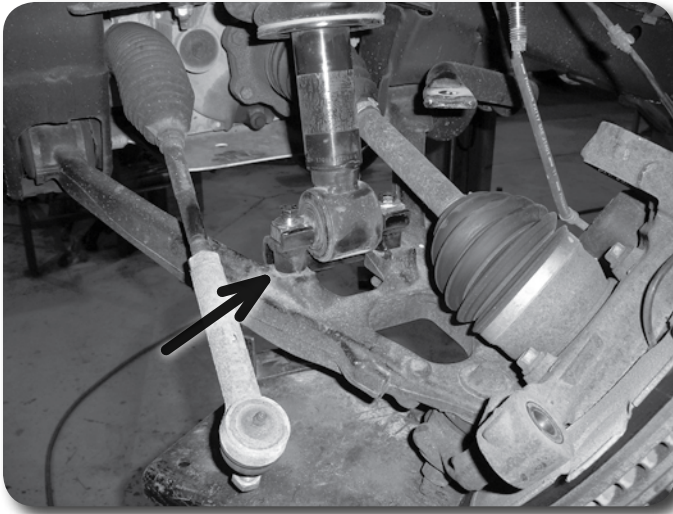

Figure 7
11. Align the holes in the strut bar pin and the spacer. Install the provided 7/16" x 3-1/2" bolts with washers down through the bar pin and spacer. **Figure 7** Once the bolts are in position, align them with the holes in the control arm and raise the control arm up to seat the assembly together. Fasten the 7/16" bolts with the provided nuts and washers. Torque the 7/16" hardware to 45 ft-lbs.